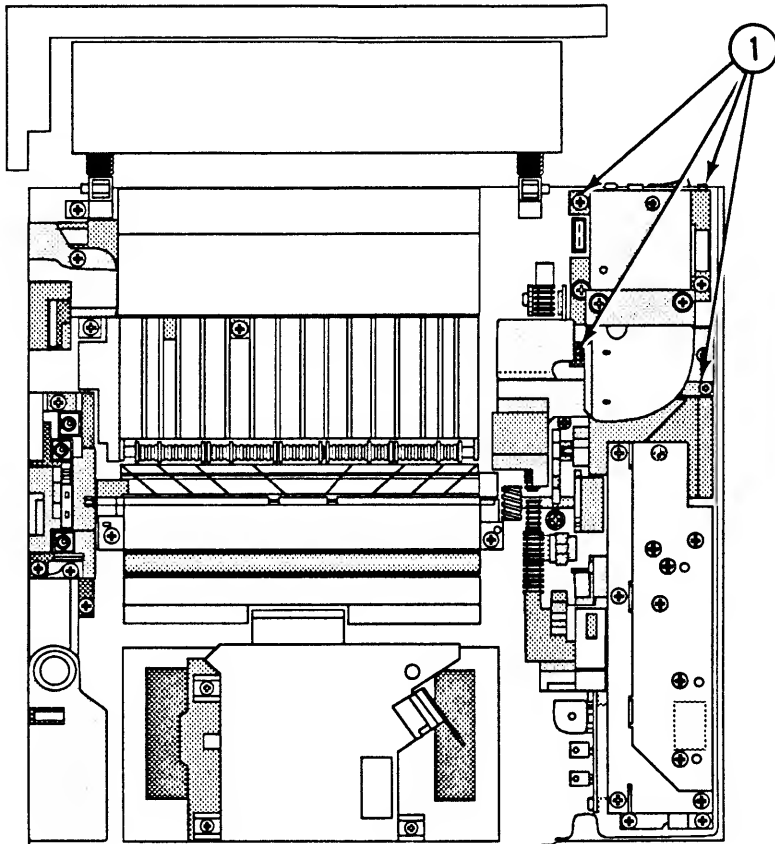

FIGURE 24
2. Remove the four Phillips screws (Figure 24, #1) that secure the power supply block to the chassis.